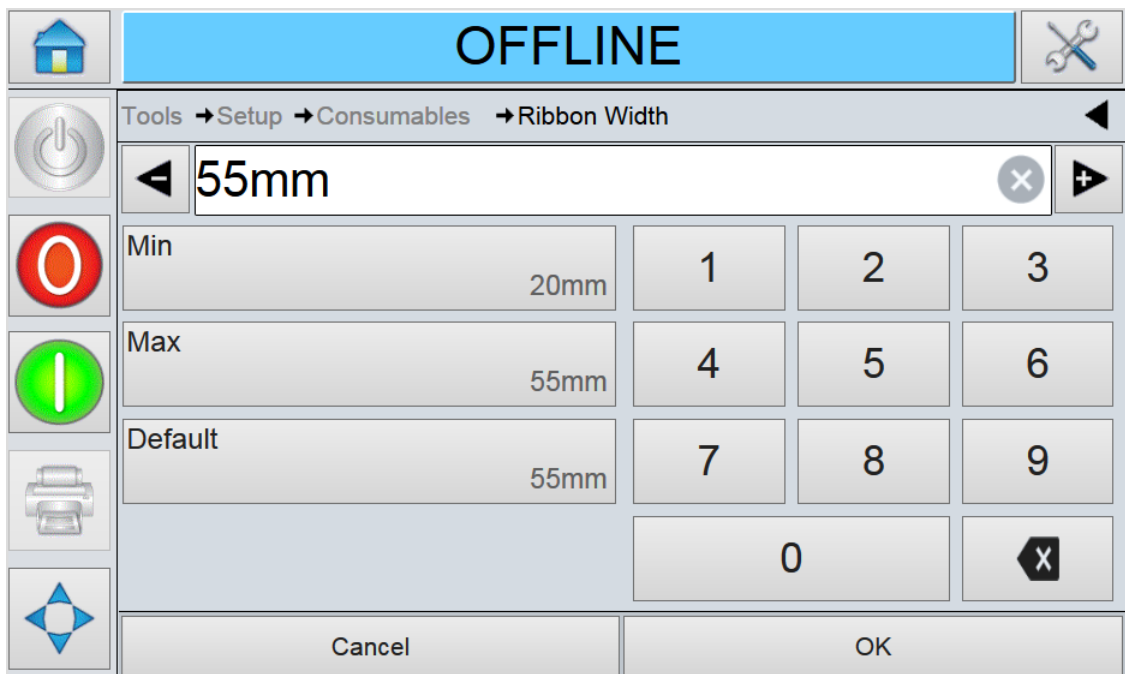

Figure 4-17: Printer Ribbon Width
2. Enter a new value using the keypad as shown in the Figure 4-17.